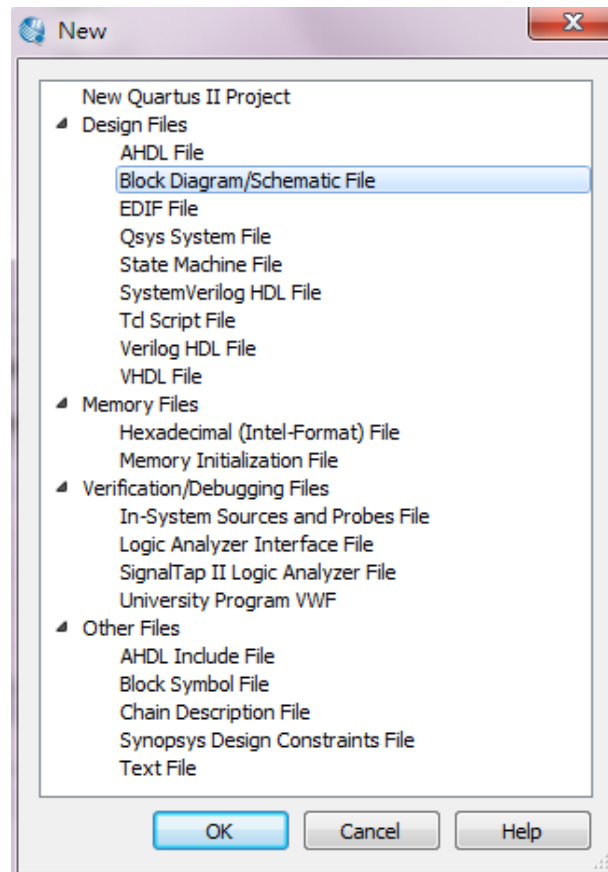

Figure 3-1 New BDF
1. Choose File > New > Block Diagram/Schematic File (see **Figure 3-1** to create a new file, Block1.bdf, which you will save as the top-level design.